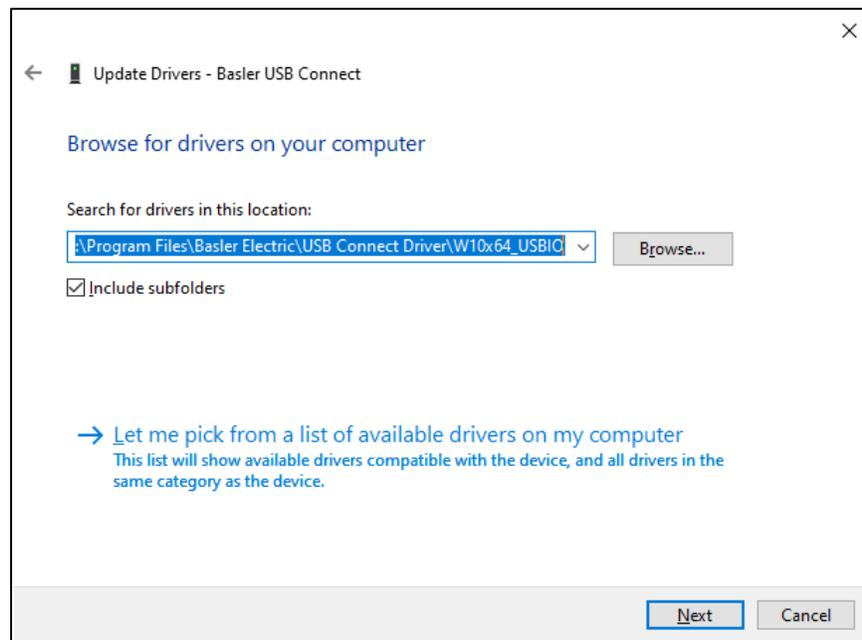

Figure 8-5. Update Driver Software - DGC-2020HD
Step 5. Click Browse and navigate to C:\Program Files\Basler Electric\USB Connect Driver\W10x64_USBIO\. Click Next. See Figure 8-5.